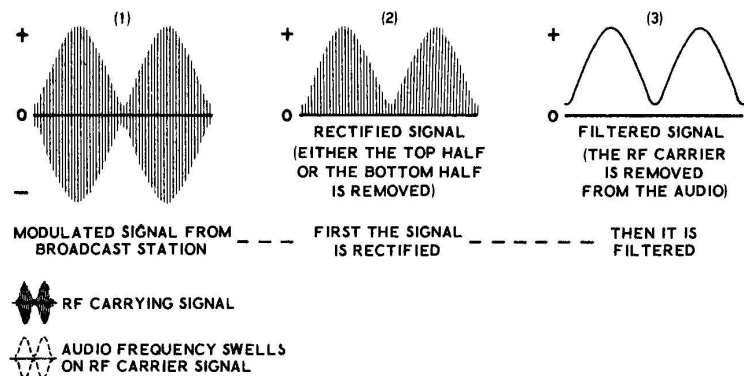

Figure 7F
**FILTERING:** Figure 7F shows an overall picture of the signal into and out of the detector circuit. Part 1 shows the signal received from the tuning circuits of the receiver. Part 3 shows the signal with the audio completely restored and the RF filtered from it.